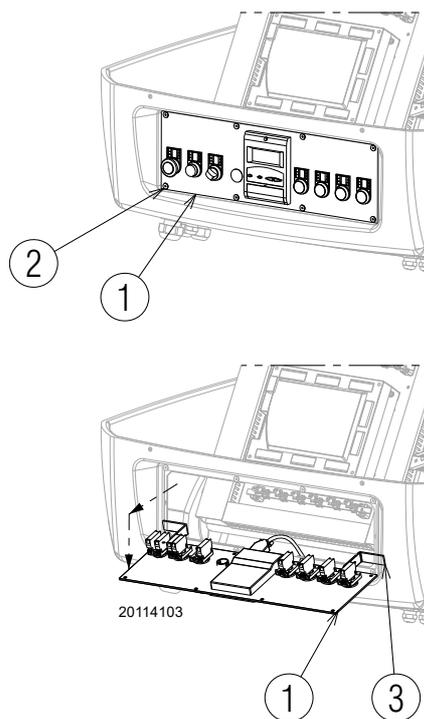

Fig. 44
- extract the control panel 1) and turn it 90°, hooking it with the brackets 3) in the profile of the electrical panel as shown in Fig. 44;